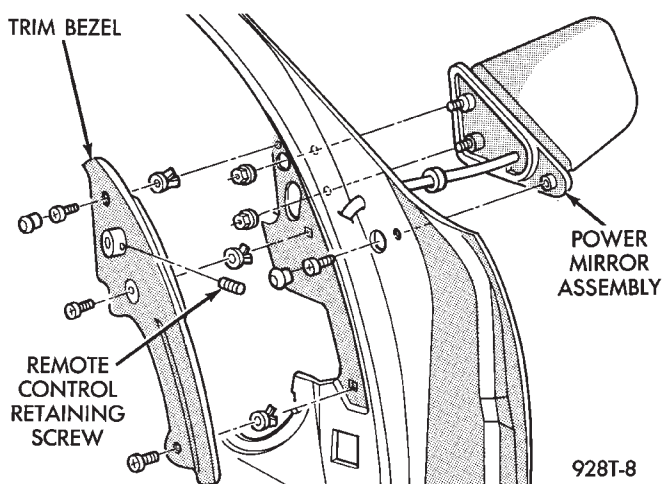

Fig. 19 Power Mirror Assembly — AC and AY Body
(3) Disconnect mirror wiring connector near bottom of door (Fig. 19).
(4) Remove two mirror retaining nuts and screw one, and pull mirror and harness from door.
(5) For installation, reverse above procedure. Test mirror for proper operation before installing door trim panel.